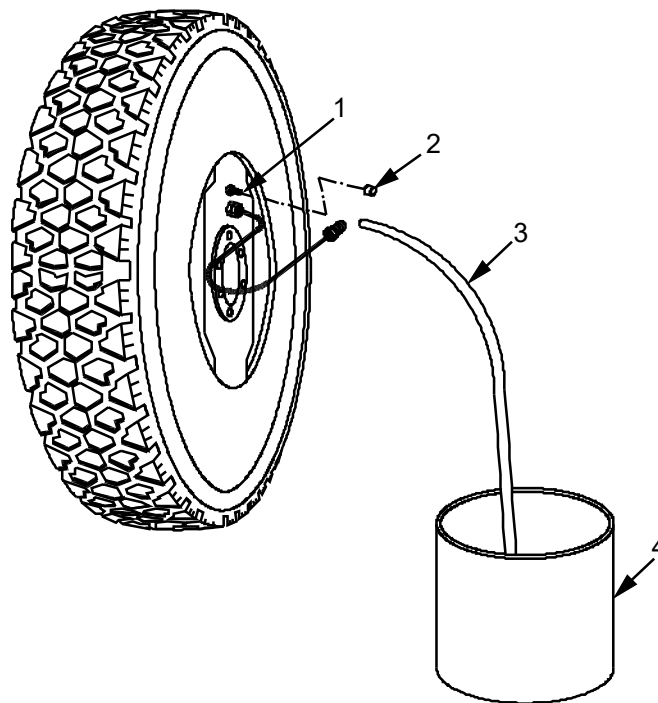

Figure 3. Bleed Brake System.
7. Remove the rubber dust cover (Figure 3, Item 2) from the cylinder bleed valve (Figure 3, Item 1) on the curb side brake cylinder and set aside.
8. Connect plastic tube (Figure 3, Item 3) to the end of cylinder bleed valve (Figure 3, Item 1) and route tube into drain pan (Figure 3, Item 4).
9. Turn the curb side cylinder bleed valve (Figure 3, Item 1) 1/4 turn counter clockwise to loosen until air or fluid escapes valve.
10. When air/ fluid flow decreases, turn the cylinder bleed valve (Figure 3, Item 1) 1/4 turn clockwise to tighten.
13. Repeat steps 6 through 10, until no air escapes cylinder bleed valve (Figure 3, Item 1).
14. Remove tube (Figure 3, Item 3) and replace rubber dust cover (Figure 3, Item 2) on to cylinder bleed valve (Figure 3, Item 1).